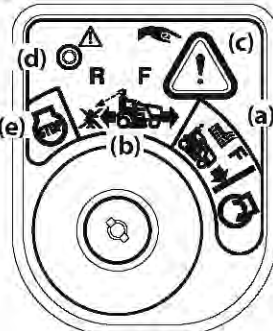

Figure 28
2. Turn the ignition key from the NORMAL MOWING (a) position to the REVERSE CAUTION MODE (b) position of the ignition switch. See Figure 28.
3. Press and hold the REVERSE CAUTION MODE BUTTON (c) at the top, right corner of the ignition module for 3 seconds. The red indicator light (d) at the top, left corner of the ignition module will be ON while activated. See Figure 28.
4. Once activated (indicator light ON), the tractor can be driven in reverse with the PTO (Blade Engage) in the engaged (ON) position.